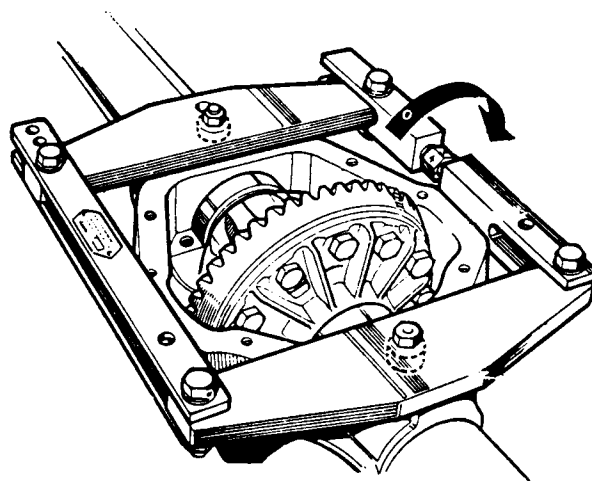

Fig J2.5
- (1) Refer to Fig J2.5. Fit the differential unit with shims and bearings to the axle casing, using the axle spreader 18G131C with pegs 18G131F.